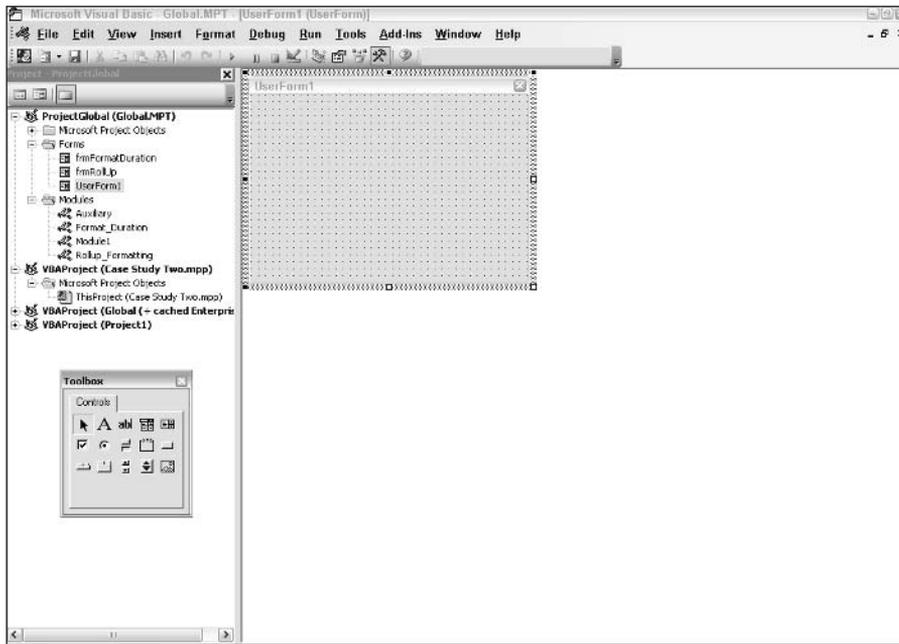

Figure 25-10: A UserForm for designing a custom dialog box.
3. Choose **Insert**⇨**UserForm**. You see a screen similar to that shown in Figure 25-10.